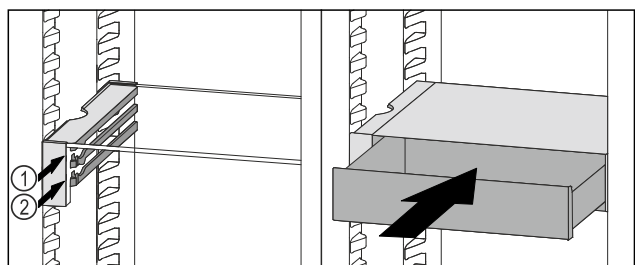

Fig. 198
- ▶ Place the VarioSafe drawer behind the stoppers on desired rib Fig. 198 (1) or Fig. 198 (2).